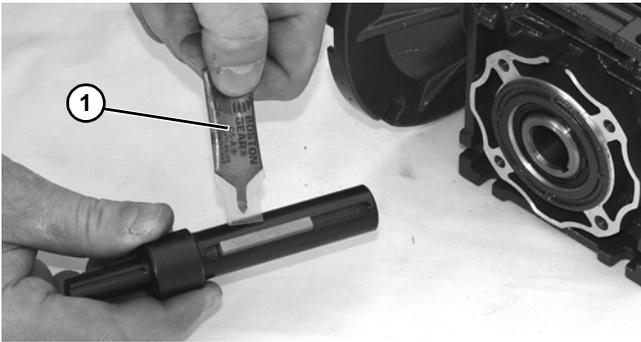

Figure 30
5. Apply anti-seize (Figure 30, item 1) to shaft.